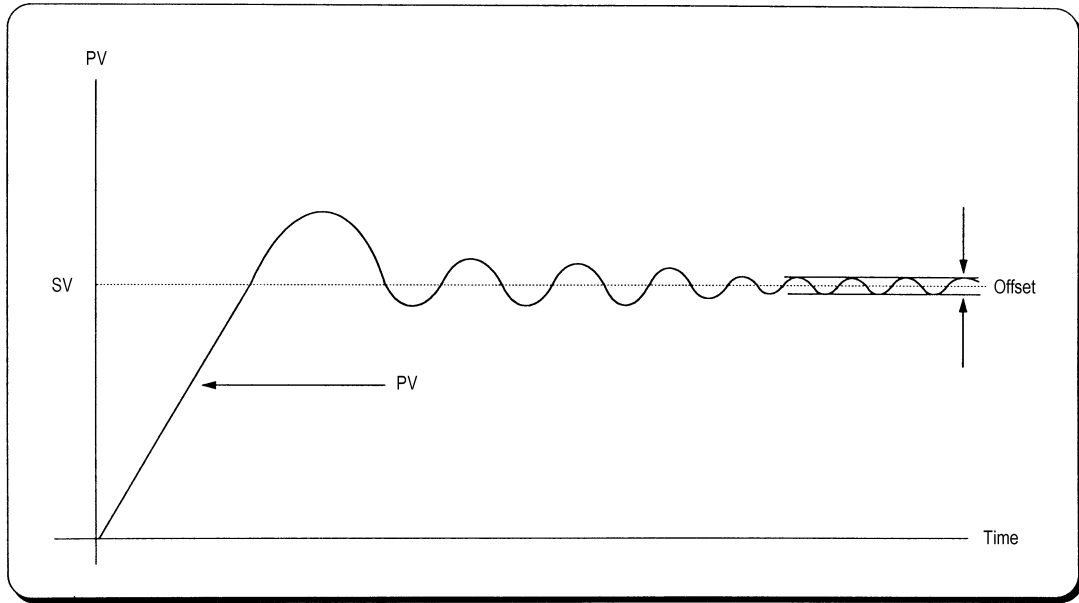

Fig. 2.2 When the proportional constant ( $K_p$ ) is large
- (d) If the  $Kp$  is too large, the PV reaches to the SV swiftly, but it may causes a bad effect like oscillations shown in the Fig. 2.2.